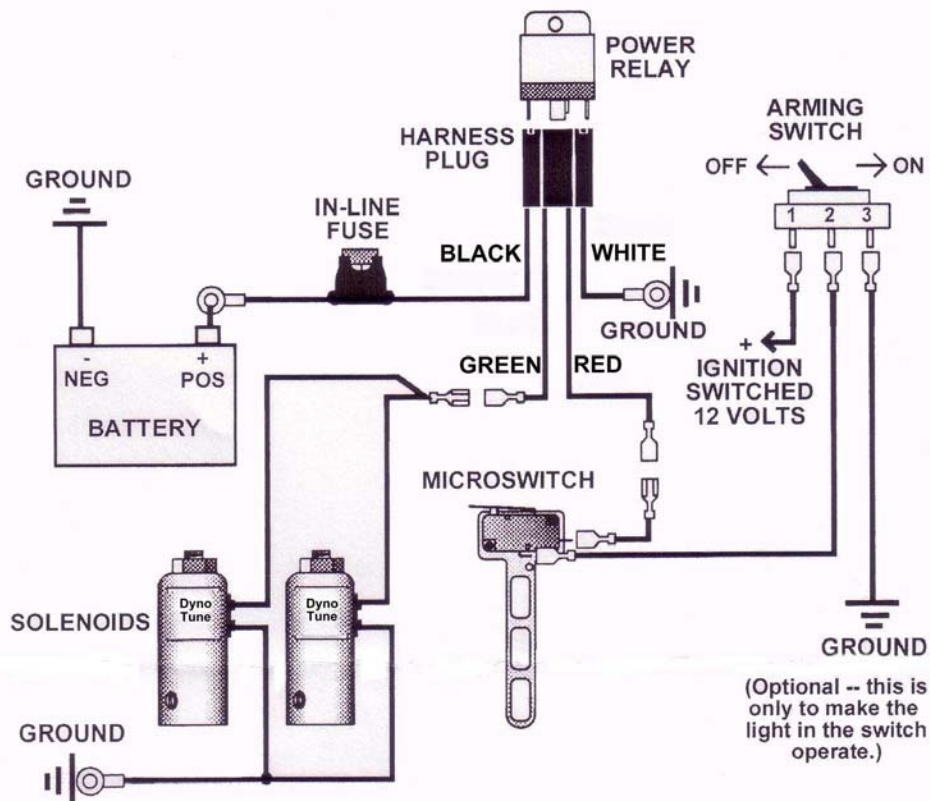

FIG. 5
Refer to figure 5 and the procedures in this section for electrical system installation. **WARNING! Death or injury may occur from working on a charged electrical system.**
- 8) Push the throttle wide open while the engine is off. Each solenoid should make a clicking noise if it is working properly. If no Noise is heard, check all wiring connections and each wire in schematic per figure 5. **NOTE: Nitrous and Fuel flowing through the solenoids is needed to keep the coils from melting. Short, one second power cycles will not hurt them but more than 5 seconds with no nitrous or fuel flowing though them will melt the coils and void your warranty.**